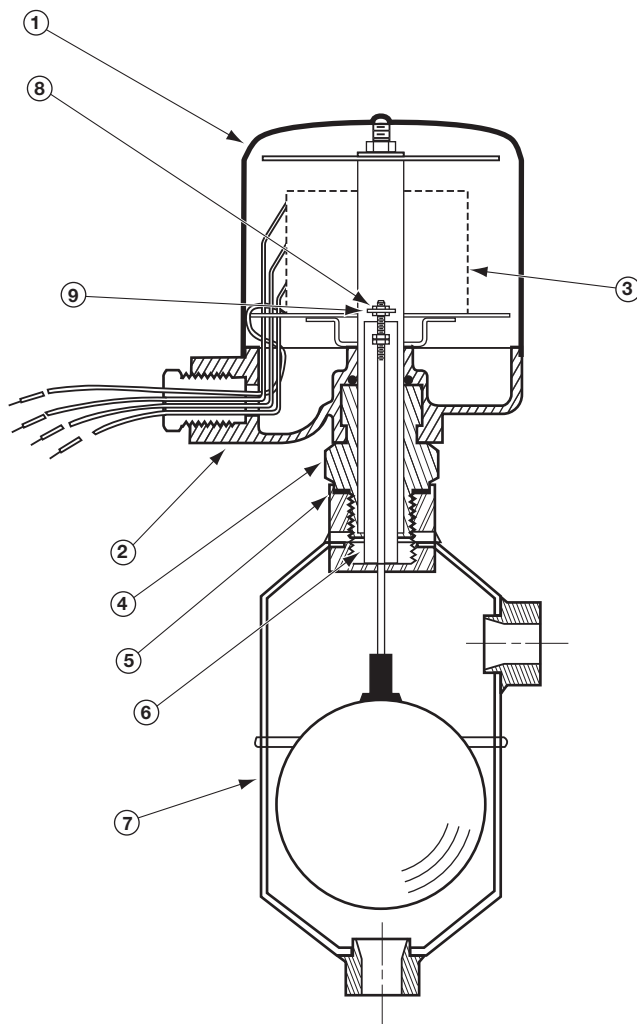

Figure 8
3. Remove switch housing assembly by loosening enclosing tube nut located immediately below housing base. Refer to Figure 8 on page 7.